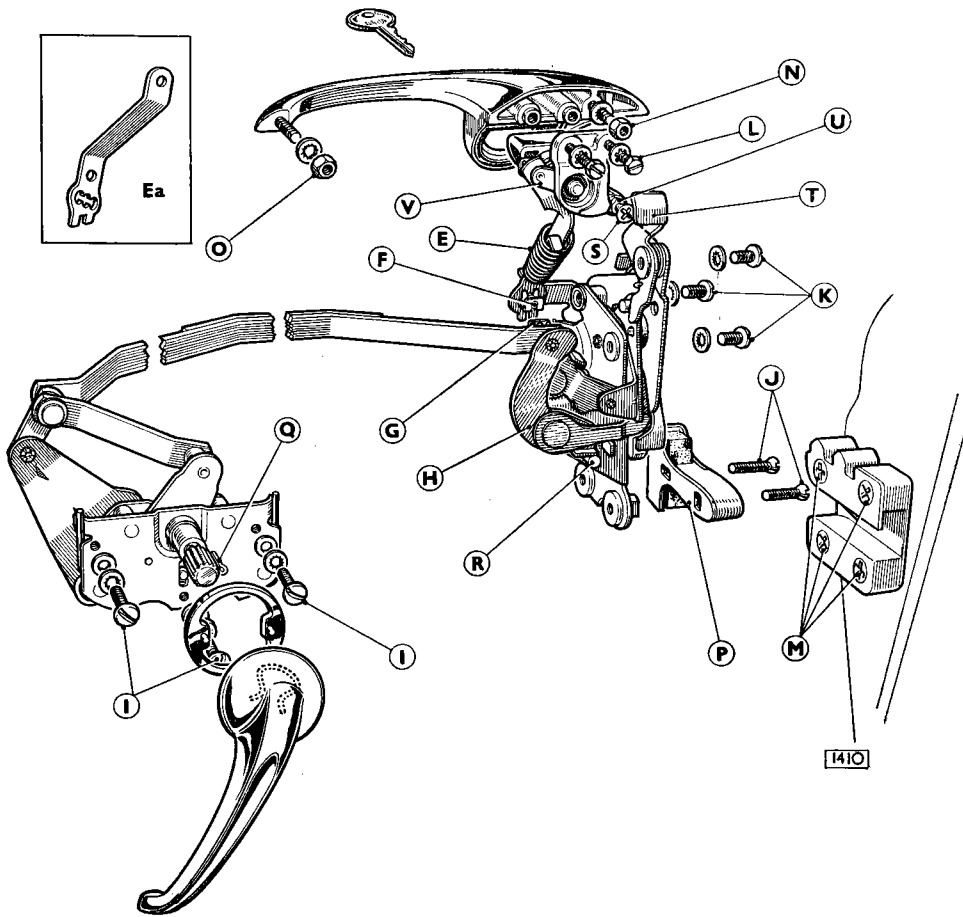

Fig. 49. Exploded view of the door lock mechanism
Raise the window to the full extent and release the spring clip holding the bottom of the outside handle connecting link (E or Ea) Fig. 49 to the dowel (F) on the intermediate lever. This is accessible through an aperture in the inner door panel. Remove the spring clip (G) and the waved washer fitted between the connecting link (H) and the remote control link.